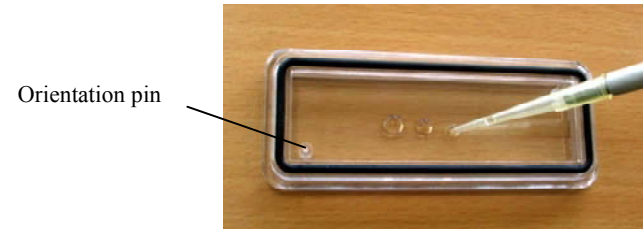

Fig. 2 Add 200-300 µl of deionized water to the base board.
3. Add distilled water in the base board to prevent evaporation of the hybridization solution (**Fig. 2**). The total volume permitted is 300 µl.